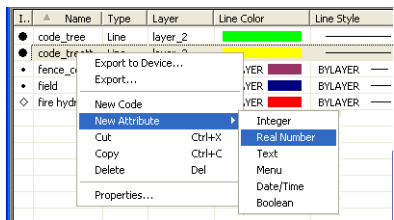

Figure 5-63. Select Attribute to Add
- 1. Right-click a code to add an attribute to and click **New Attribute** then select the attribute type on the pop-up menu (Figure 5-63).